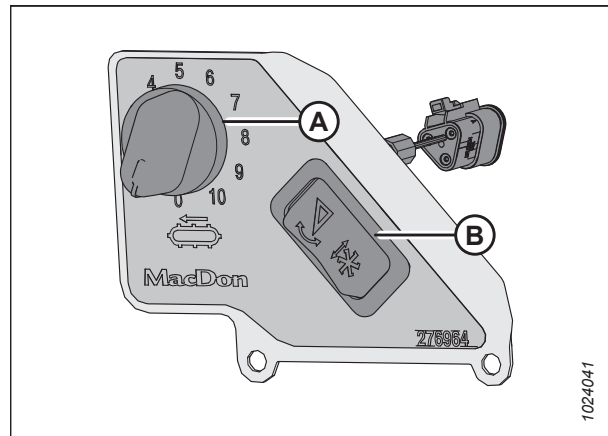

Figure 3.147: In-Cab Side Draper Speed Control
Switch (B) in Figure 3.147, page 140 allows the operator to switch between the header tilt and reel fore-aft controls. For instructions on the controls, refer to Adjusting Header Angle from Combine, page 137.